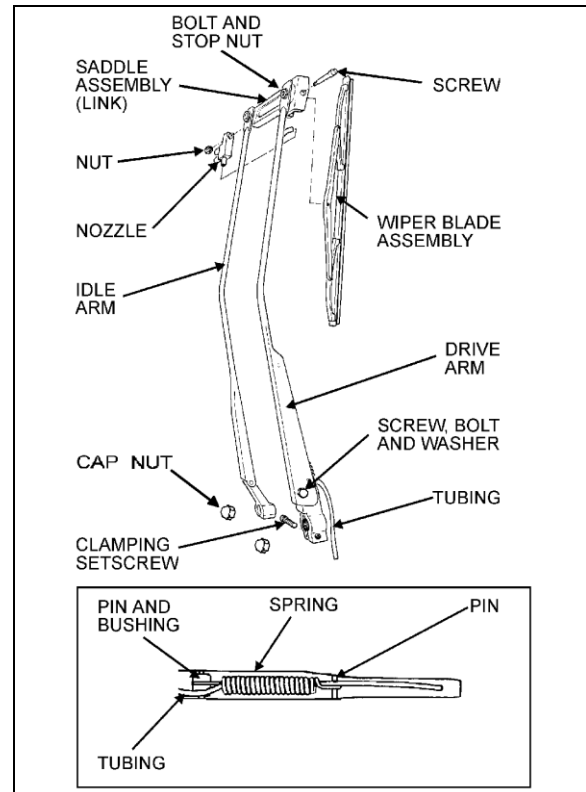
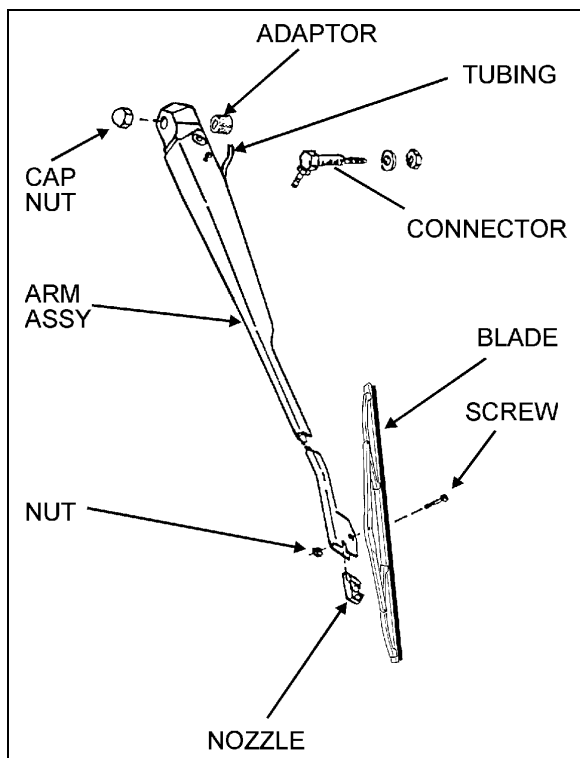

FIGURE 38: LOWER WINDSHIELD WIPER
FIGURE 39: UPPER WINDSHIELD WIPER
1. Remove the cap nuts from the wiper arm pivot shafts (Figure 38 & Figure 39);